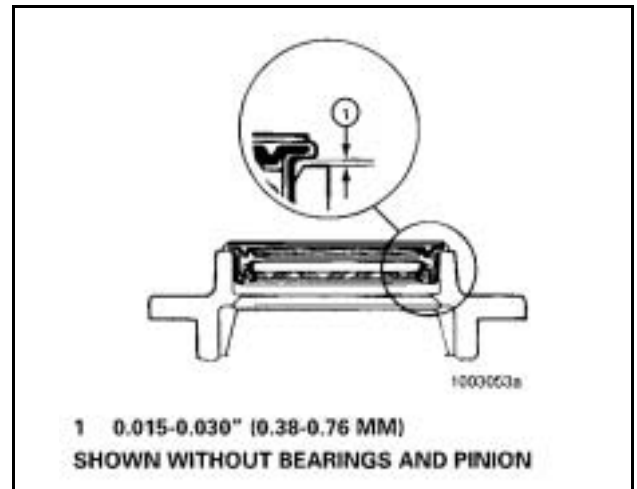

Figure 72
- d. After the triple-lip seal is installed, a gap of approximately 0.015 to 0.030 inch (0.38-0.76 mm) between the flange and bearing cage is normal. **Figure 72.**